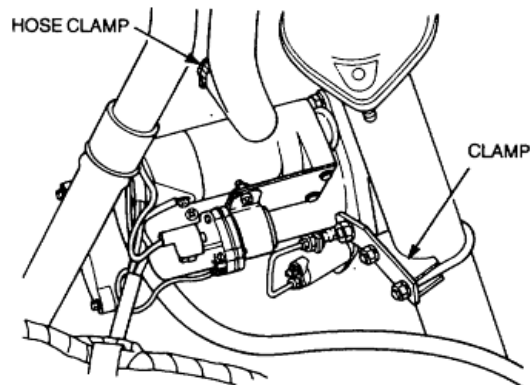

Figure 5 Engine Exhaust Pipe Removal
- b. Loosen the clamp securing the exhaust pipe to the support bracket, adjacent to the starter motor (Figure 5).
- c. Loosen the hose clamp securing the engine breather pipe to the side cover and disconnect the hose (Figure 5).